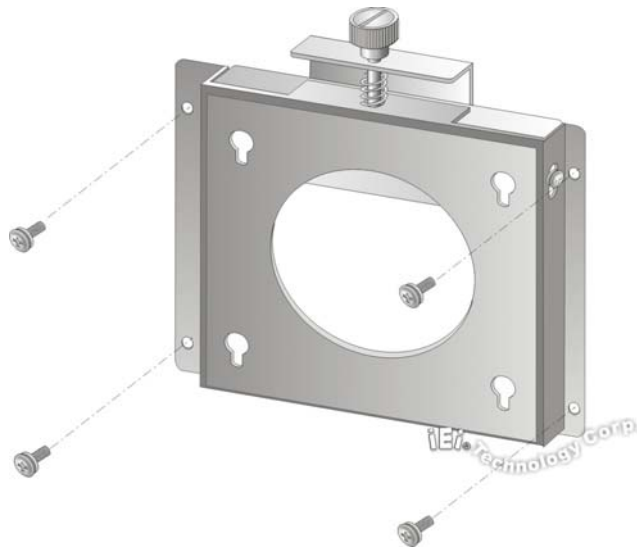

Figure 2-23: Wall-mounting Bracket
Step 5: Secure the mounting-bracket to the wall by inserting the retention screws into the four pilot holes and tightening them (Figure 2-23).